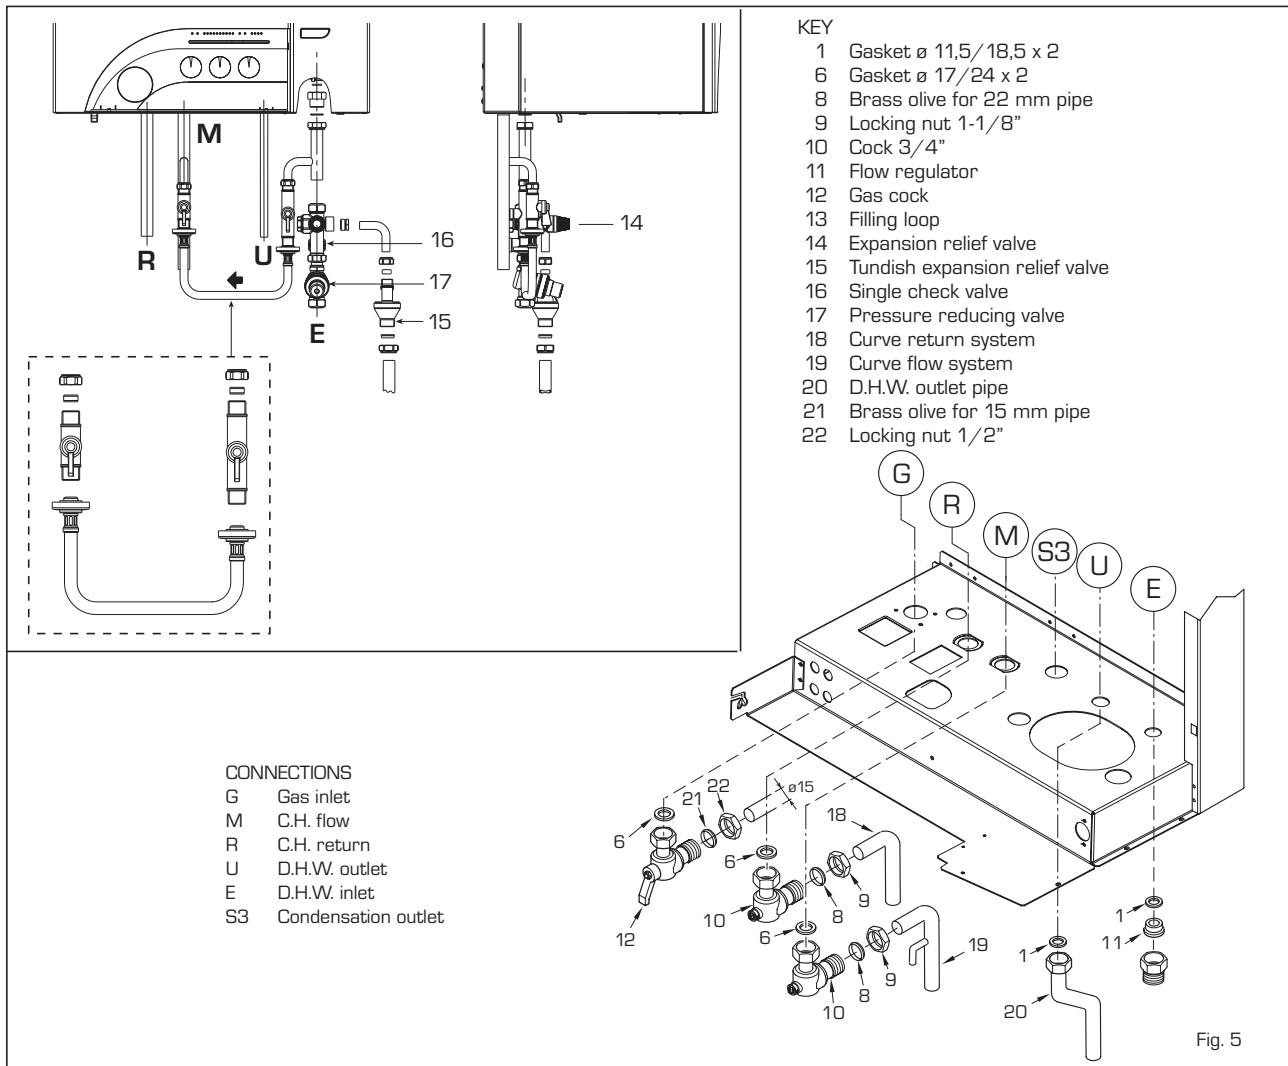
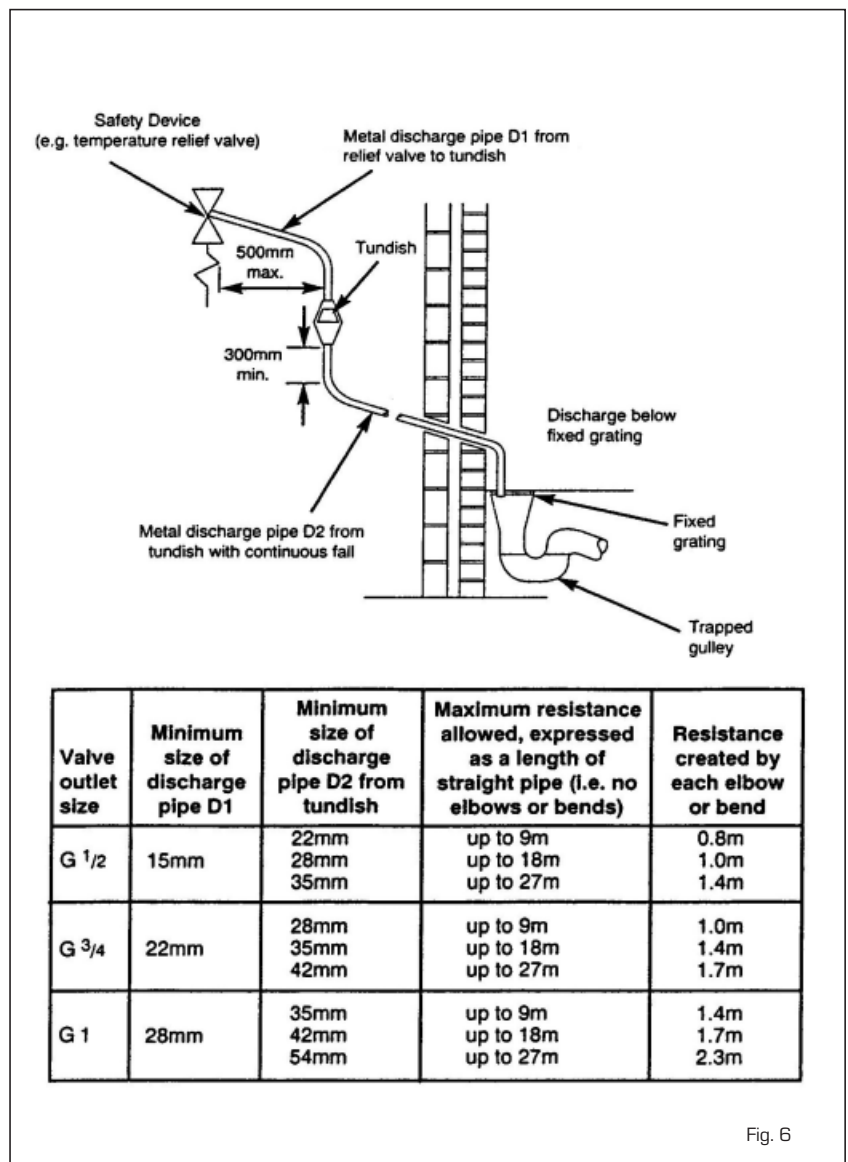

Fig. 5
Fig. 6
2.3 HOW TO FIT C.H. AND D.H.W. FITTINGS AND GAS COCK (fig. 5)
See fig. 5 and fig. 6 for installation details. It is important that no isolating valve is fitted between the expansion relief valve and the inlet to the D.H.W. tank. Any additional D.H.W. drain down tap fitted should be positioned as low as possible to ensure that at least 80% of the D.H.W. tank's capacity can be drained. If installed in a Hard Water area, then a suitable device should be fitted to treat the mains supply to the appliance (Contact your Water Distribution Company for advice on suitable devices). Fit the quarter bend (2) to the hot water outlet (U) using the gasket supplied (1).
- GAS CONNECTION (C)
- The appliance is equipped with an internal by-pass that operates with system heads (H) greater than 3 m. The maximum flow through the by-pass is about 300 l/h. If thermostatic radiator valves are to be installed, at least one radiator should be without a thermostatic valve (usually the bathroom radiator).
- A sealed system must only be filled by a competent person using one of the approved methods shown in fig. 6. The system design should incorporate the connections appropriate to one of these methods.
away from any electrical components. The connections to the expansion relief valve and temperature and pressure relief valve should not be used for any other purpose. See fig. 6 for example of the discharge pipe(s) for the temperature and pressure relief valve, and expansion relief valve terminations. Note: it is permitted to connect discharge pipes together provided that the joint pipe is sized to accommodate the combined flow.
See fig. 6 for example discharge pipe terminations.